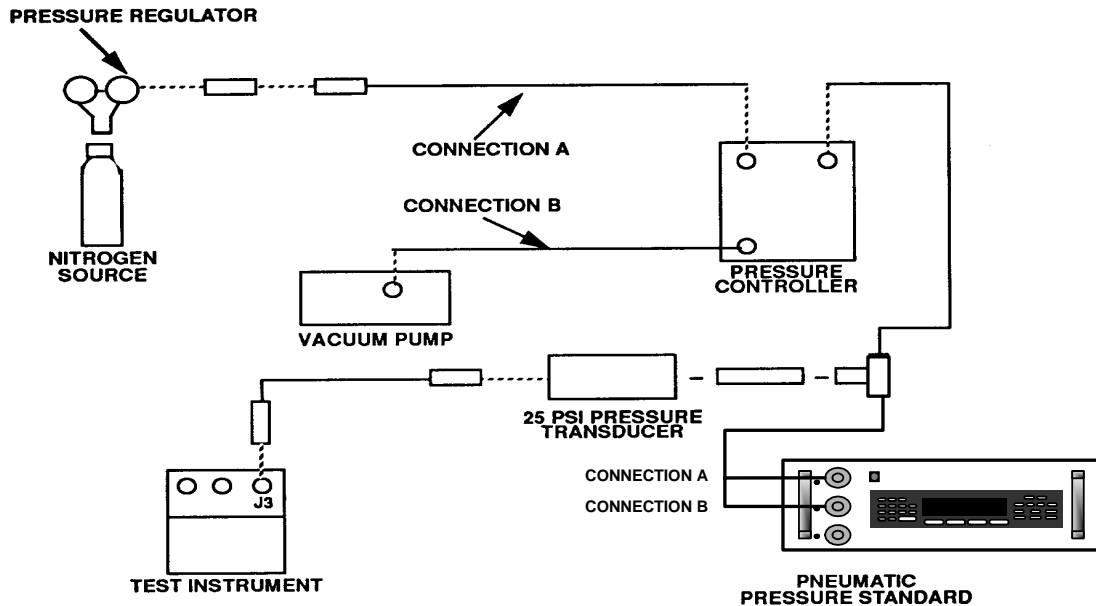

Figure 3. Pressure and vacuum - equipment setup (25 psi).
- (2) Set **TEST SELECT** switches to **50**.
- (3) Operate hydraulic pressure standard to apply 1000 psi and return to **0** three times.
- (4) With pressure at **0**, press and hold **TEST** pushbutton until **CAL** appears on TI display. Release **TEST** pushbutton.
- (5) Wait for offset value to appear on display. Offset value will be between **-150** and **+150**.
- (6) Press and release **TEST** pushbutton.
- (7) Operate hydraulic pressure standard to apply 300 psi. TI will indicate between 277.5 and 322.5.
(8) Operate hydraulic pressure standard to apply 1000 psi. TI will indicate between 960 and 1040.
(9) Connect equipment as shown in CONNECTION A (fig. 3).
(10) Set **TEST SELECTOR** switches to 49.
- (1) Connect equipment as shown in CONNECTION B (fig. 3).
- (2) Set **TEST SELECT** switches to **45**.
- (3) Operate vacuum pump and adjust pressure controller and pneumatic pressure standard controls for 18 inHg indication and back to **0** three times.
- (4) Stop the vacuum pump and, with pneumatic pressure standard indicating **0**, press and hold **TEST** pushbutton until **CAL** appears on display. Release **TEST** pushbutton.
- (5) Wait for offset value to appear on display. Offset value will be between **-4.5** and **+4.5**.
- (7) Operate vacuum pump and adjust necessary controls for 18.00 inHg indication on pneumatic pressure standard. TI will display between 17.10 and 18.90.